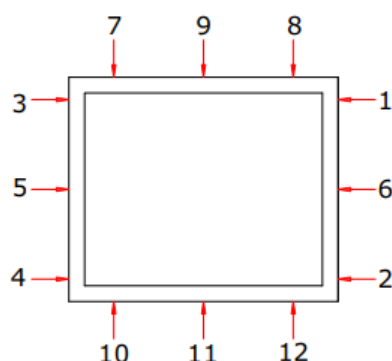

Figure 7 Sequence of the fixing points for fixed glazing
6. Level the right side of the frame and drill the first fixing point through frame. Correct sequence of the fixing points is shown in the figure 7.
7. Fix the frame with remaining fixing points (Figure 7). Support blocks must be added next to every fixing point. Tighten the screws.